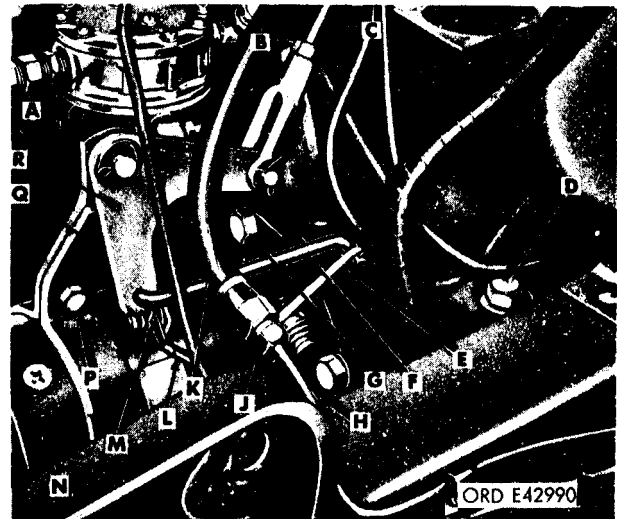
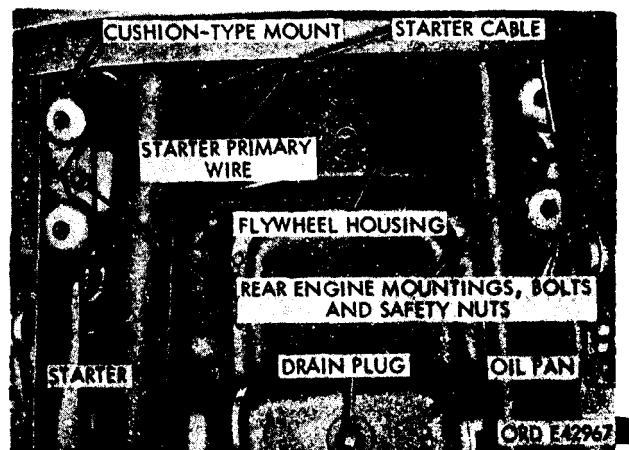

Figure 54.5. Starter and fuel pump installed on rear left side of engine.
Figure 54.14. View of rear section of engine from underside of vehicle.
(f) Disconnect starter linkage. Remove cotter pin and yoke pin securing starter control rod (C, figure 54.5) to bellcrank (R, figure 54.5). Pull control rod upward into cab and secure in this position.
(c) Disconnect flywheel-housing-to-air-cleaner vent line (vehicles equipped with flywheel housing ventilating system only). Loosen hose clamp securing flywheel housing vent line at rear lower right side of engine (figure 54.5) or 54.6) to air cleaner outlet hose, and remove hose from line.
On some vehicles, the vent line is connected to the top right front face of the flywheel housing (figure 54.6). On other vehicles, the vent line is connected to the top of the transmission shifter housing forward of the housing cover (figure 54.5). Current production models are not equipped with a flywheel-housing-to-air-cleaner vent line.
On some vehicles, the starter cable and starter primary cable extend from the starter to the magnetic switch over the top of the clutch housing (figure 54.7). On other vehicles, the cables extend from the starter to the magnetic switch around the bottom of the clutch housing (figure 54.14).
(h) Remove engine rear mounting plat. cap screws. Remove two self-locking nuts from cap screws (D, figure 54.5) securing mounting bosses on left and right sides of flywheel housing to engine rear mounts (figure 54.14).
2. With tension on engine lifting sling, aline holes in flywheel housing mounting bosses with engine rear mounts. Insert two capscrews (D, figure 54.5), one on each side, and loosely install safety nuts (figure 54.14) on capscrews.
(3) Connect procedures under vehicle.